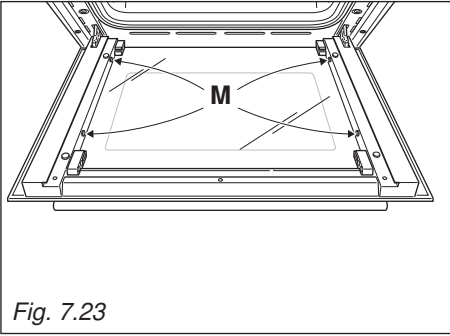

Fig. 7.23
- Check that the four rubber pads are in place ("M" in fig. 7.23).